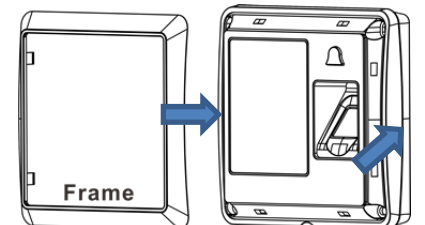

Figure 6
**2.1.5** The frame installed in the corresponding position (Figure 6).